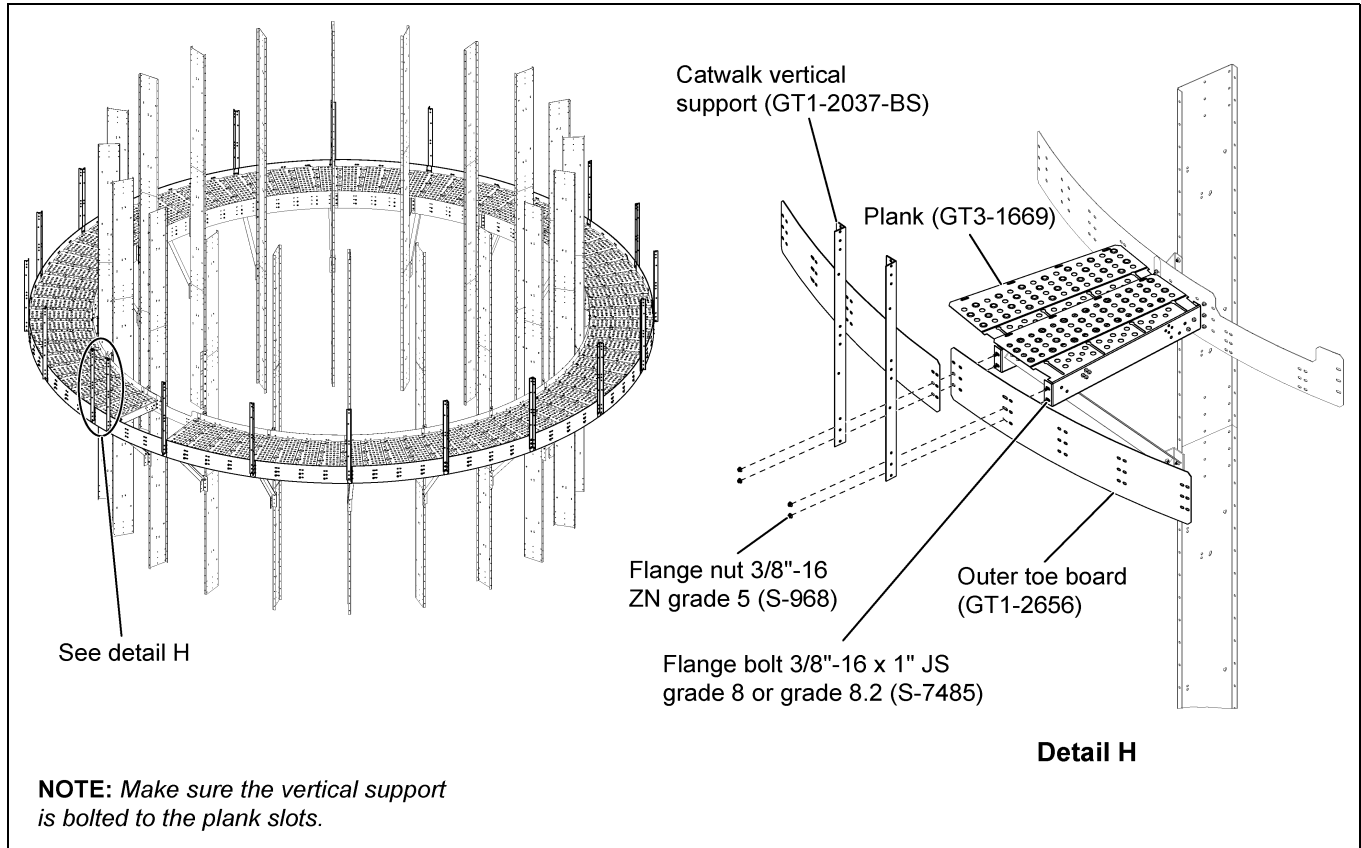
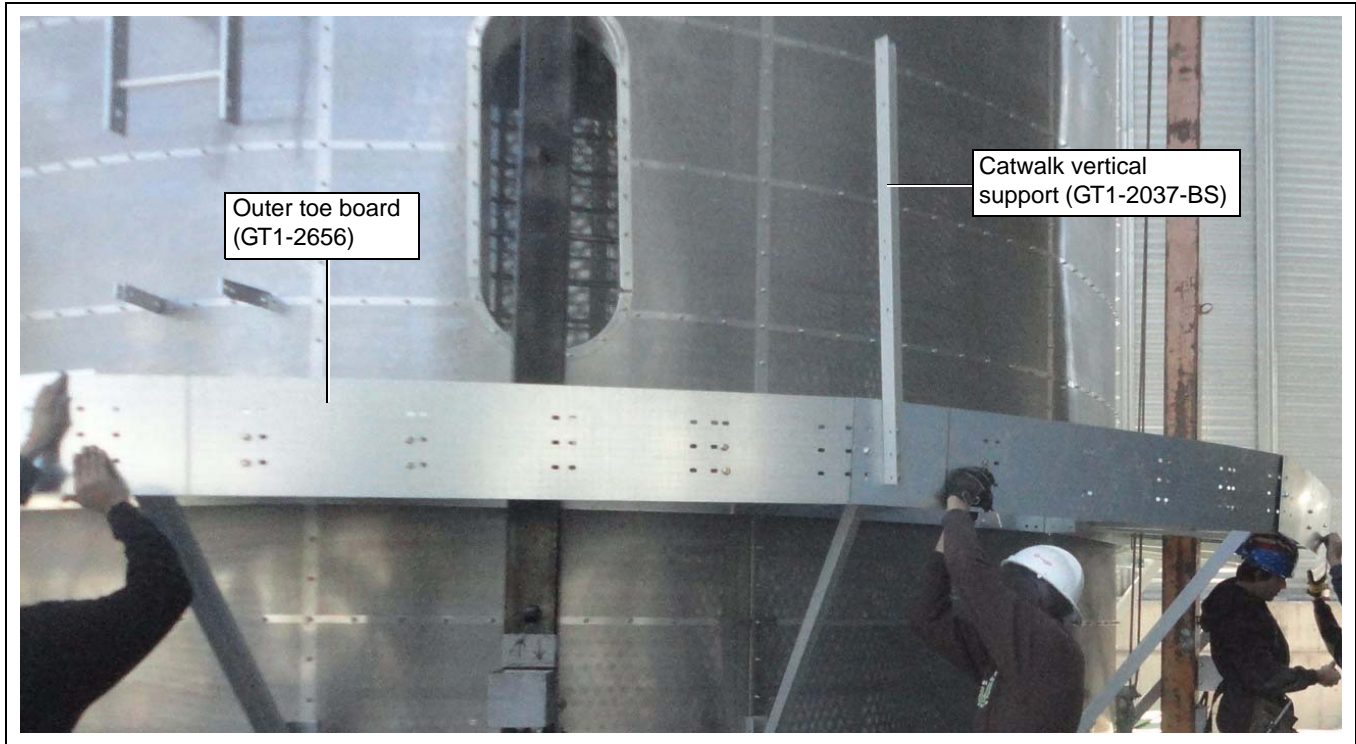

Figure 4R
Figure 4T
1. Install all the outer toe boards (GT1-2656) to the planks (GT3-1669). (See Figure 4R.)
2. When installing the outer toe board (GT1-2656) with planks (GT3-1669), install the catwalk vertical support (GT1-2037-BS) simultaneously at proper locations using 3/8"-16 x 1" JS grade 8 or grade 8.2 bolts (S-7485) and 3/8"-16 ZN grade 5 nuts (S-968). (See Figure 4R and Figure 4T on Page 27.)